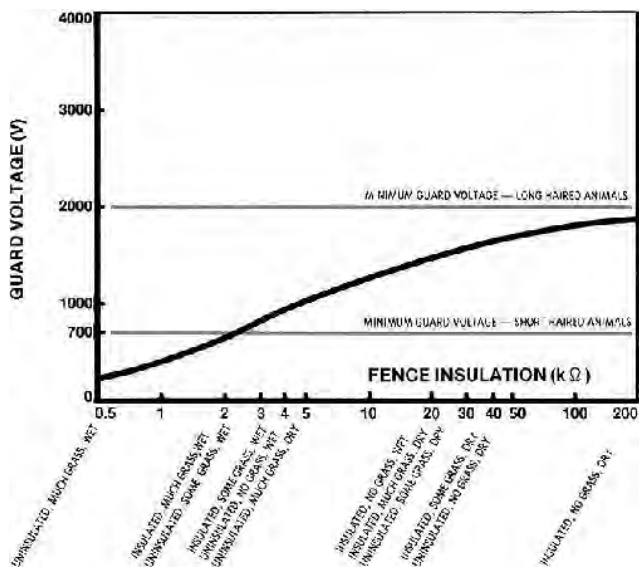

FIGURE 1. Guard Voltage Produced on a 5.4 km Single Wire Fence.
**Peak Voltage Output:** FIGURES 1 and 2 show peak voltage outputs of the Parmak FM for 5.4 and 16 km lengths of single wire fence over a range of insulation resistances. On a 5.4 km fence (FIGURE 1), peak voltage output varied from 1900 V for a well-insulated, grass-free, dry fence to 240 V for an uninsulated, wet fence with considerable grass touching the charged wire. The voltage output was above the 700 V minimum guard voltage needed for short-haired animals, for fence insulation values greater than 2.2 kΩ, while it was below the 2000 V minimum guard voltage needed for long-haired animals for all fence conditions. From FIGURE 1, it can be seen that the Parmak FM can be satisfactorily used to control short-haired animals for most fence conditions on this length of fence.